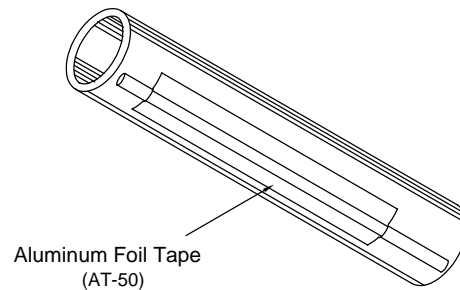

Figure 5
- 2) Aluminum foil tape should only be used if specified by design. The tape is normally installed continuously along the entire length of the heater cable. The foil is most often used on plastic pipe to offset the insulating effect of the plastic. See the Nelson Heat Trace Design Guide for details. See Figure 5 above.